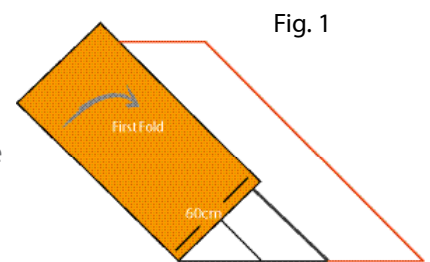
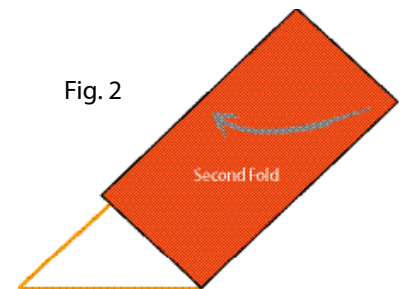

Fig. 1
Fig. 2
6. Wetting Out: Pour 75% onto the fiberglass mat. Use squeegees and spatulas to spread the resin evenly and liberally to coat the surface of the mat. Flip entire mat over. Pour out remaining resin and spread out evenly. Fold the left side of the wetted mat over to the black centre line located on the woven side of the mat as shown in (Fig. 1). Fold the right side of patch overlapping the edge of the first fold by 2.5cm (Fig. 2).